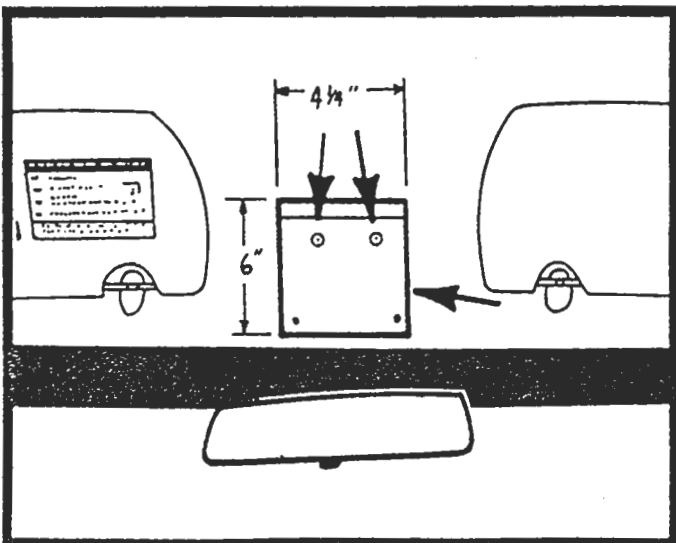

FIGURE 3
7. Carefully trim headliner as shown and install front mounting bracket (item 4 pg 2). Secure using (2) two #8 x 3/4" screws (item 2 pg 2) in dimples in roof brace. See figure 3. **Caution:** Before cutting headliner material, check for wiring or other componentry above headliner. Cut only where indicated.